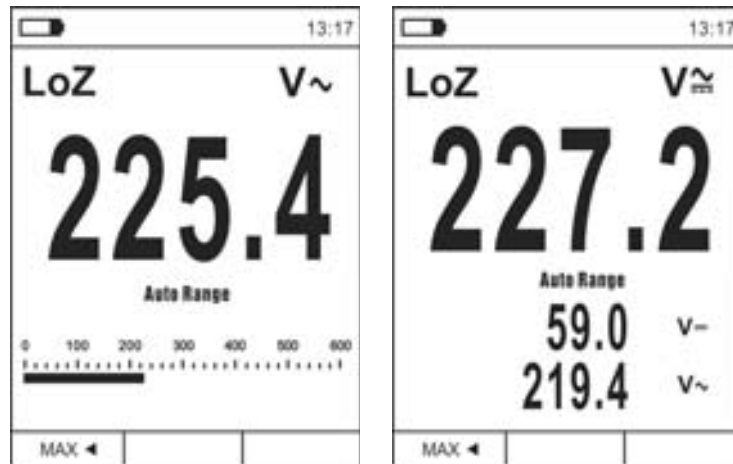

Fig. 10: Description of LoZ voltage measurement
2. Press key **MODE/VFD** by selecting modes “V $\sim$ ” or “V $\sim$ ” (see Fig. 10)